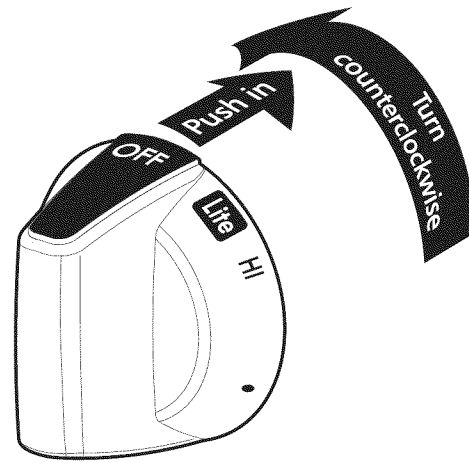

Fig. 1
2. Push the desired surface control knob in and turn counterclockwise out of the **OFF** position (Fig. 1).